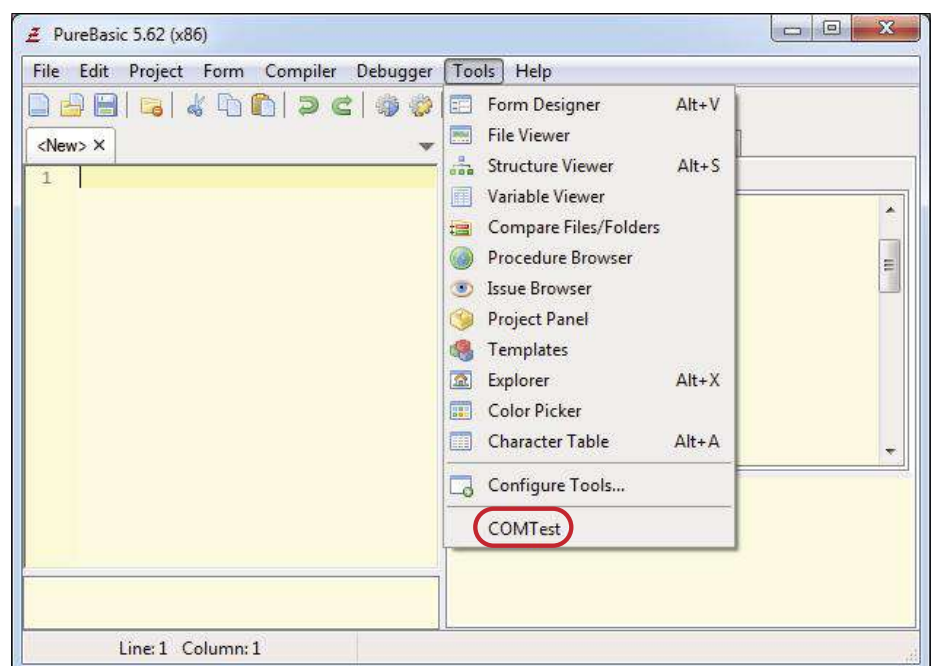

Figure 9. COMTest now appears as an entry in the Tools menu.
- After closing both windows using 'OK' the Tools menu has now been expanded with this new tool (**Figure 9**).